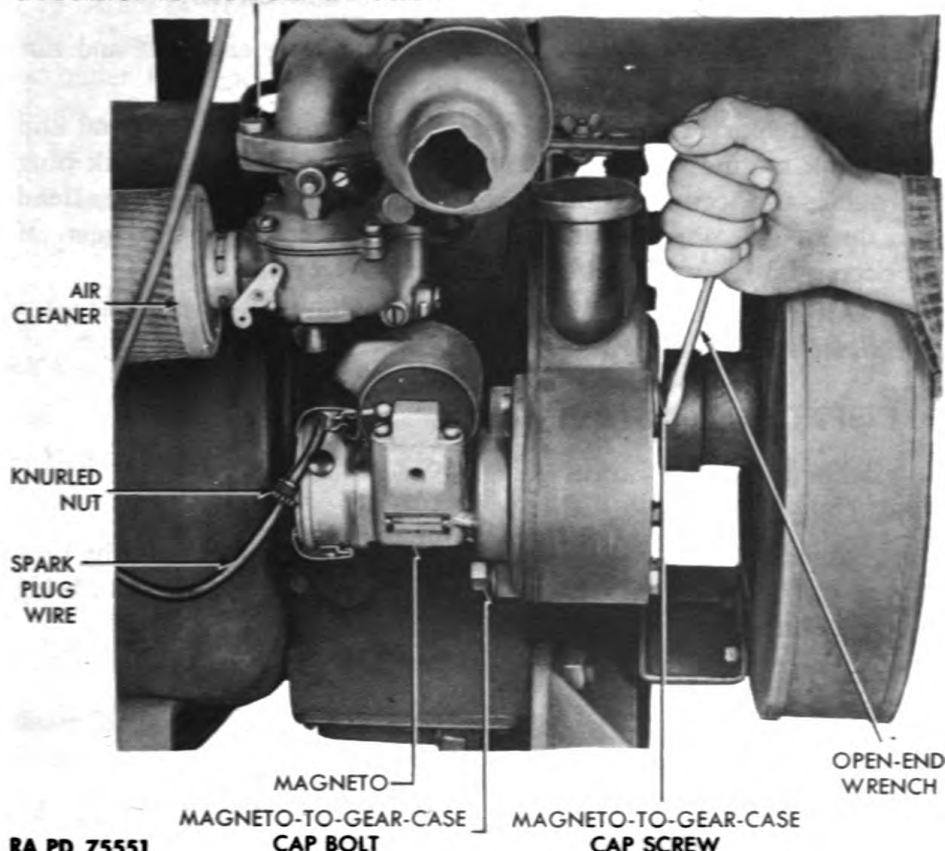

Figure 91 — Removing Centrifugal Pump Engine Magneto
- (1) Place engine on frame and slide toward pump until in position. Install four cap bolts, lock washers, and nuts securing engine to frame.
- (2) Install eight lock washers and cap screws which secure pump adapter to engine bell housing.
- (3) Install packing thrust washer, shim, Woodruff key, impeller, wear plate, case cover, and suction flange on pump (subpar. b, above).
e. Removal of Carburetor (fig. 91).
- (1) Remove air cleaner from carburetor.
- (2) Disconnect throttle control rod from carburetor. Use pliers to remove cotter key.
- (3) Turn off shut-off cock on fuel filter below gasoline tank and disconnect fuel line from carburetor.
- (4) Remove the two carburetor-to-manifold cap screws and lift carburetor and gasket from manifold.
f. Installation of Carburetor (fig. 91).
- (1) Using a new gasket, place carburetor in position on intake manifold. Install the two carburetor-to-manifold cap screws.
- (2) Using a new cotter key, connect throttle control rod to carburetor throttle lever.
- (3) Connect fuel line to carburetor. Turn on gasoline shut-off cock on fuel filter and check installation for leaks.
- (4) Install air cleaner on carburetor.
g. Removal of Magneto (fig. 91).
- (1) Unscrew knurled bakelite nut which holds spark plug wire to magneto. Pull spark plug wire from tower on magneto.
- (2) Remove the long cap screw and long cap bolt and nut which hold magneto flange to gear case. Lift magneto from gear case.
h. Installation and Timing of Magneto (fig. 91).
- (1) Remove spark plug. Holding thumb over spark plug hole, slowly crank engine until pressure is discernible on the thumb. Piston is then coming up on compression stroke. Continue to crank slowly until piston reaches top dead center (highest position). If engine is removed from unit, top dead center is discernible by position of keyway in crankshaft straight up.
- (2) Turn magneto shaft slowly in direction of rotation and note position at which impulse trips (indicated by clicking sound).
- (3) Hold magneto in impulse trip position, place pinion in mesh